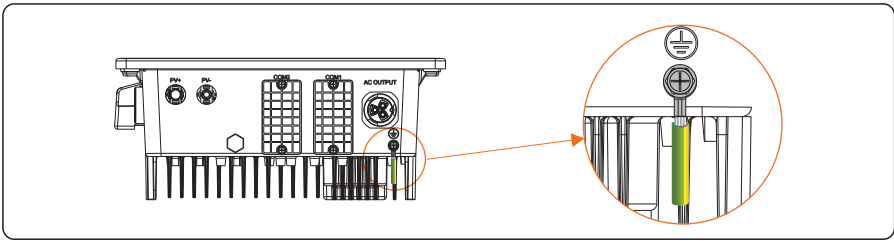

Figure 5.4 Secure the PGND cable
Step 4 Secure the PGND cable (done by step 1 & 2) using the ground screw and tighten the screw using a socket wrench (torque 1.2 N-m), as shown in Figure 5.4.